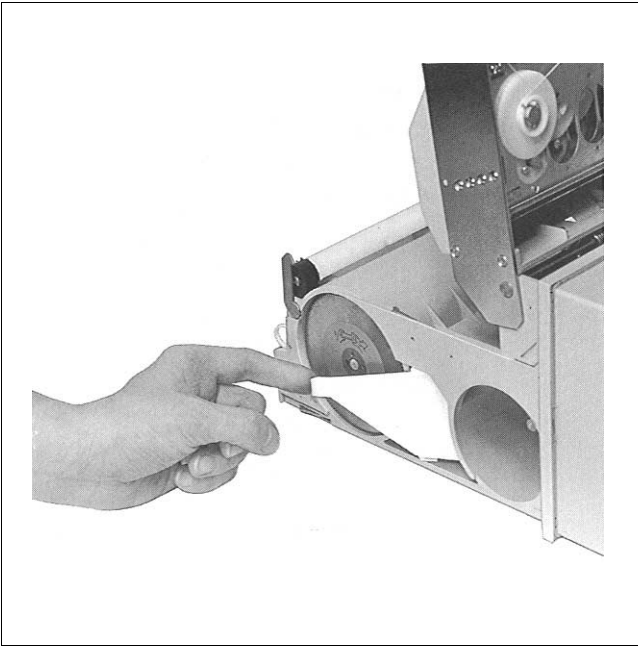

Fig. 16 Folding away roll chart holder
3. Fold away roll chart holder to the stop (see Fig. 16).